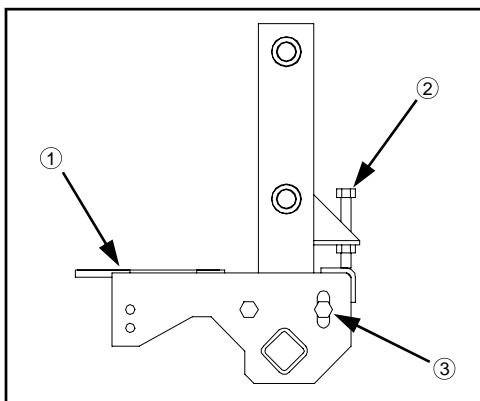

FIG 3.15
5. Normal operating angle of the quad puller is obtained when the tool bar mount surface is parallel to the ground (fig. 3.15, item 1). This angle can be varied by an adjusting bolt (fig. 3.15, item 2) and slot (fig. 3.15, item 3).